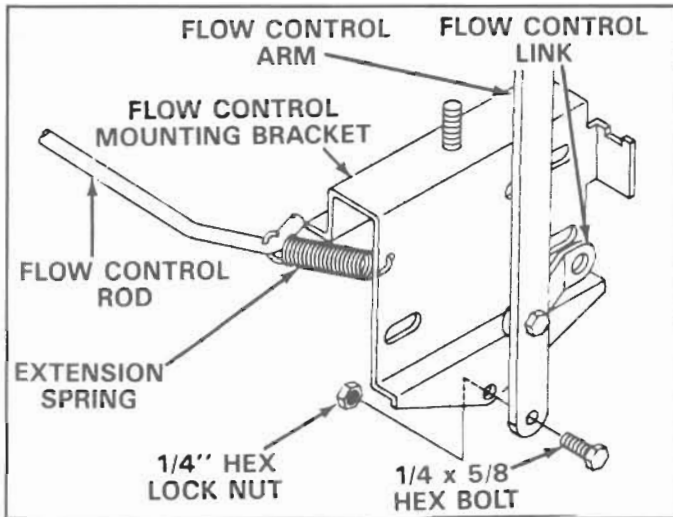

FIGURE 10
17. Assemble the flow control arm to the flow control mounting bracket using one 1/4" x 5/8" hex bolt and one 1/4" hex lock nut. See figure 10. **DO NOT OVER TIGHTEN, FLOW CONTROL ARM MUST PIVOT FREELY.**
18. Hook one end of extension spring through small hole near bend in flow control rod and the other end through hole in flow control mounting bracket. See figure 10.